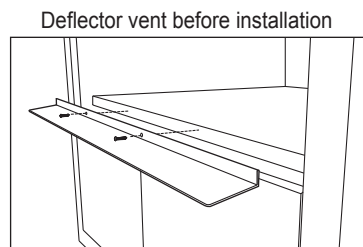

Figure 5A
2. Position deflector vent as shown in Figure 5A and mark the hole positions.